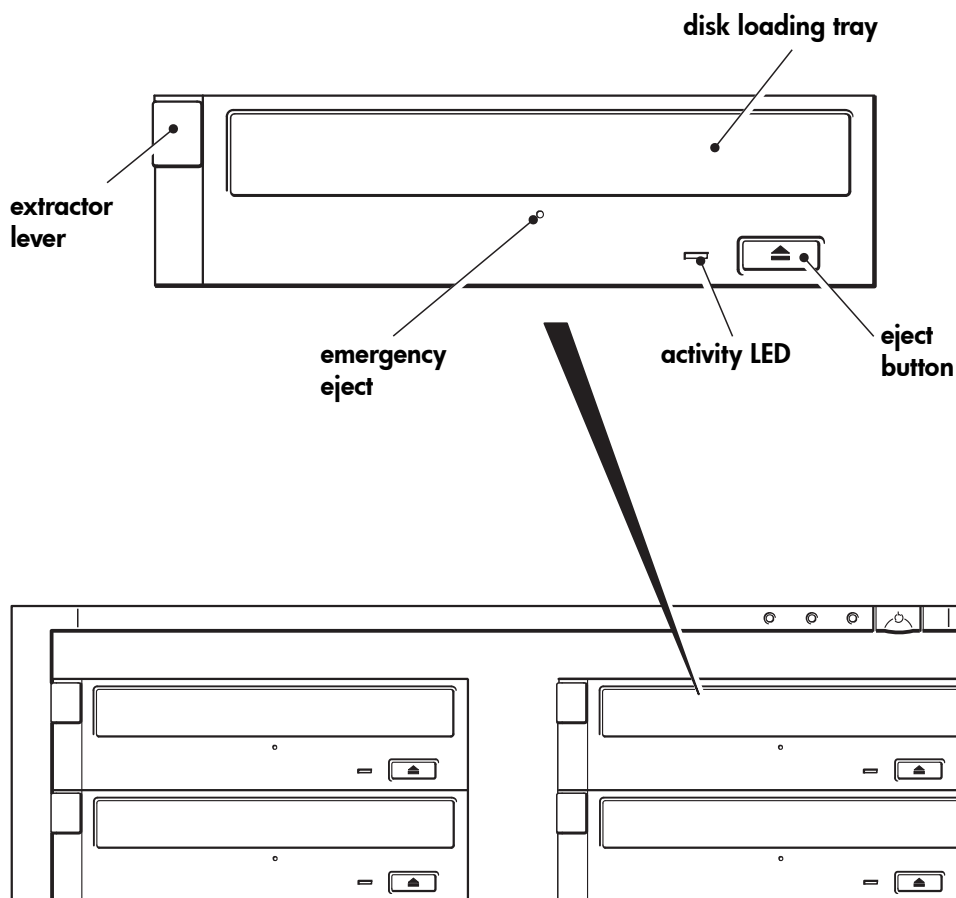

Figure 3: DVD+RW drive controls and indicators
There is one LED as illustrated in the diagram. (See figure 3.)
- 2 Locate the small emergency eject hole below the disk loading tray. See figure 3 on page 10.